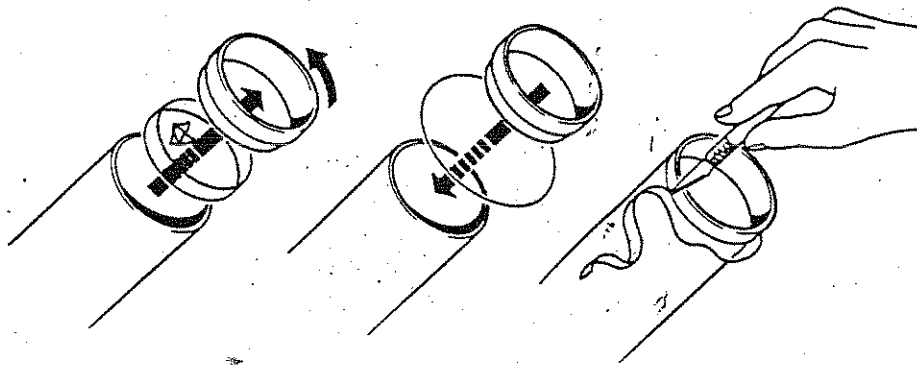

Figure 9. Protective Film Replacement
1. Remove the barrel and ring (see Figure 9).